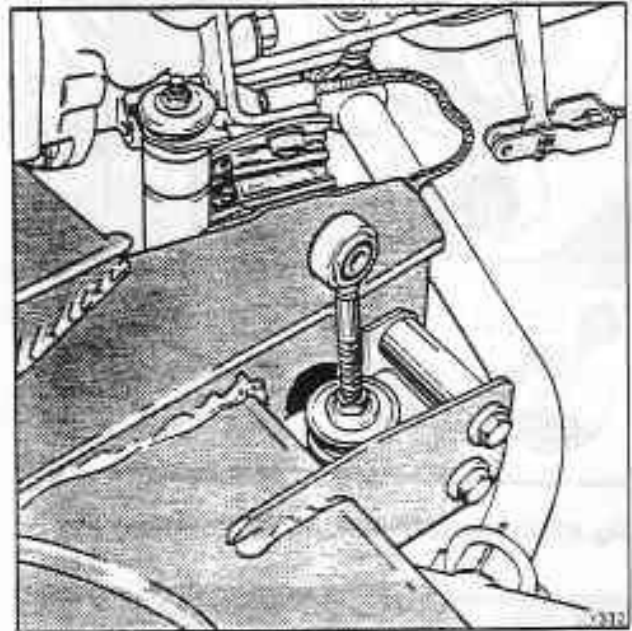

Fig. E12-1 A typical engine to sub-frame damper mounting
26. On cars fitted with small dampers adjacent to the engine rear mounts, disconnect the top of the dampers from the transmission adapter plate (see figs E12-1 and E12-2).